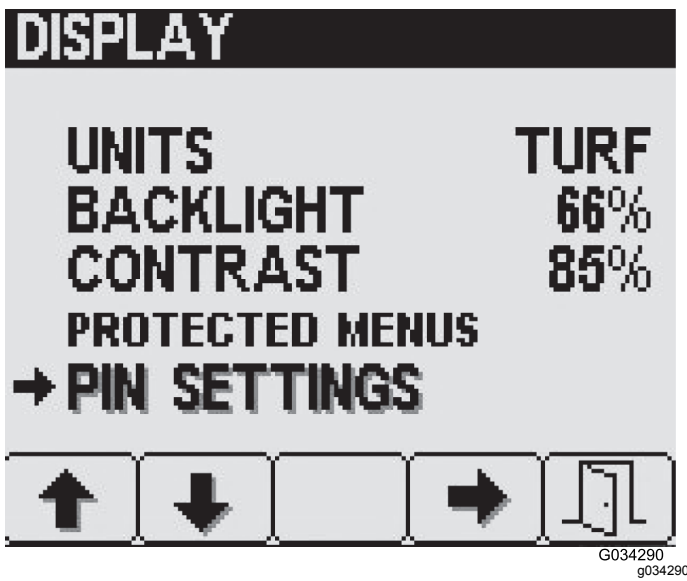

Figure 31
1. At the Display menu screen, press button 2 to navigate to the PIN Settings option, then press button 4 to select PIN Settings (Figure 31).
1. At the PIN Settings screen, press button 2 to navigate to the PIN Change option, then press button 4 to select PIN Change (Figure 31).